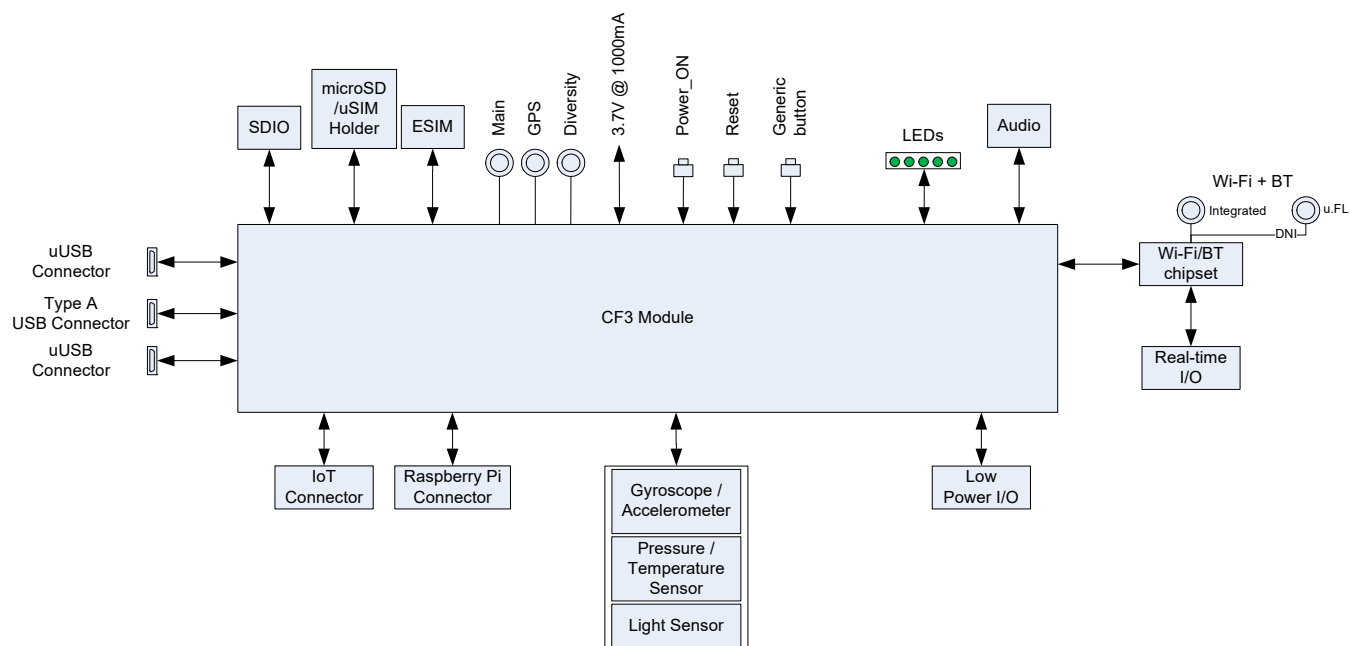
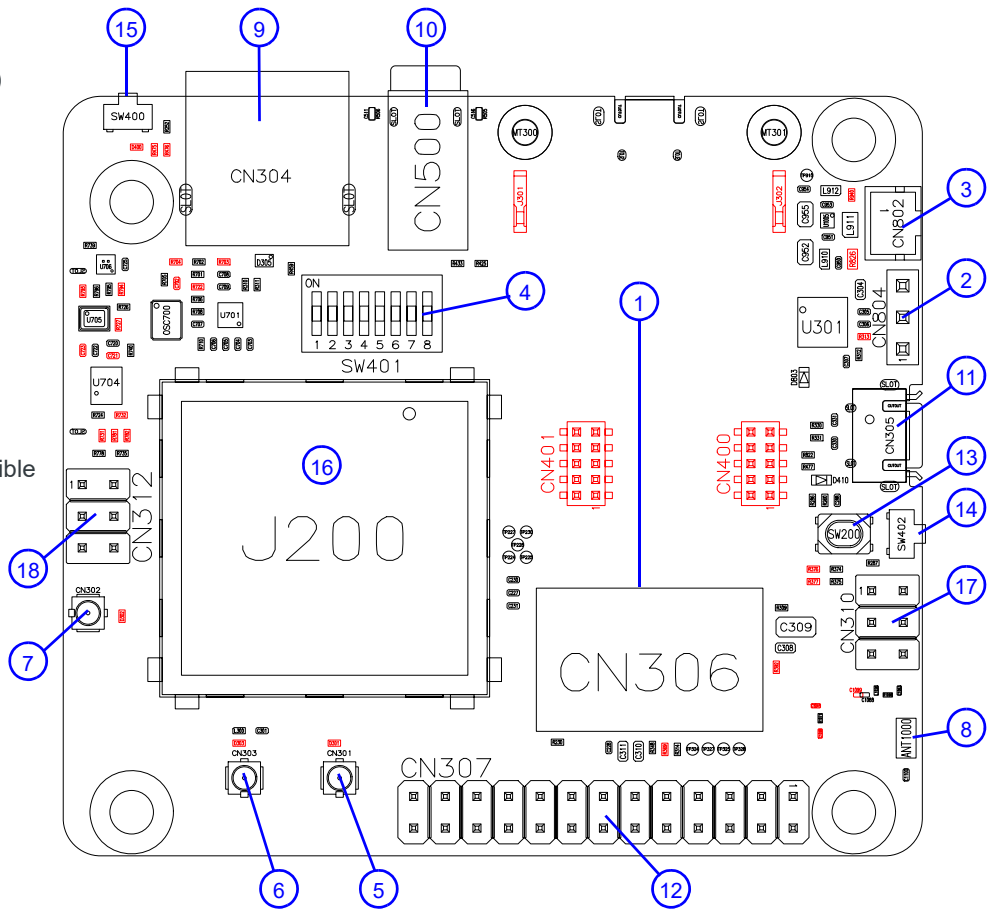

Figure 2-1: mangOH Red Hardware Components Overview
Figure 2-2: mangOH Red—Top Side Switches/Connectors
Figure 2-1 provides an overview of the mangOH Red's hardware components relative to the CF3 module, and Figure 2-2 on page 8 and Figure 2-3 on page 9 show their physical locations.
a. Board designators (e.g. CN311, SW401, etc.) are for reference against the published mangOH Red schematic. For component locations on the board, see Figure 2-2 on page 8 and Figure 2-3 on page 9.